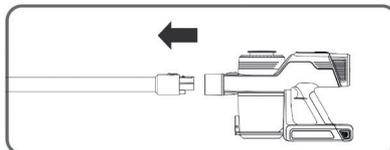

Figure 2
- To remove the aluminium tube, hold the main body with one hand and pull it out with the other hand by pressing the release button. (Figure 2)